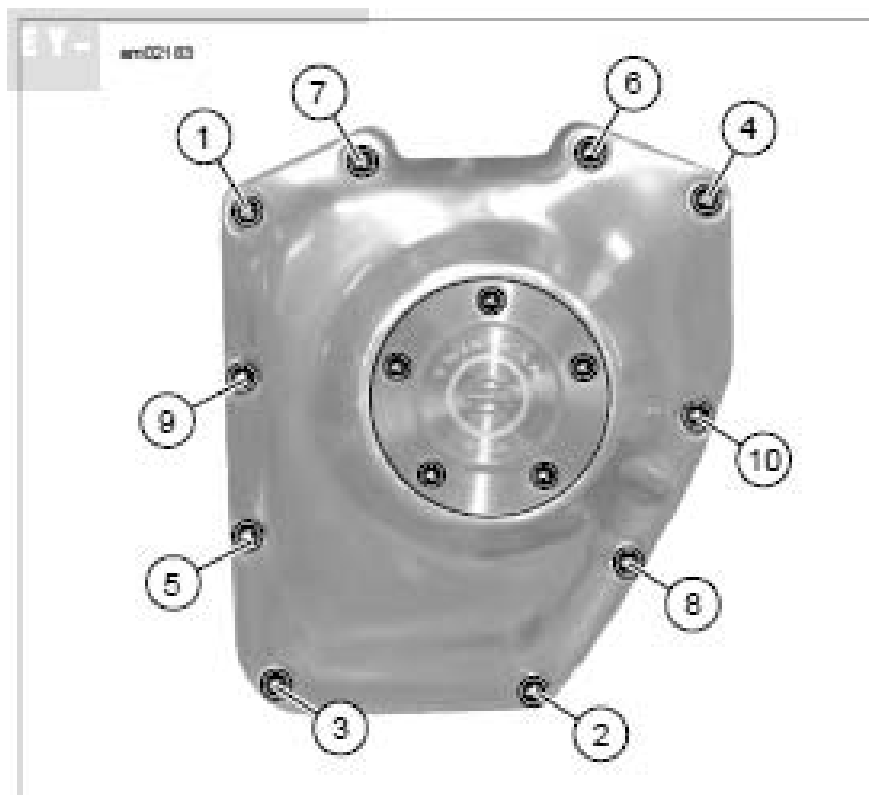

Figure 3-116. Cam Cover Screws
21. See Figure 3-116. Secure cover with socket head screws.